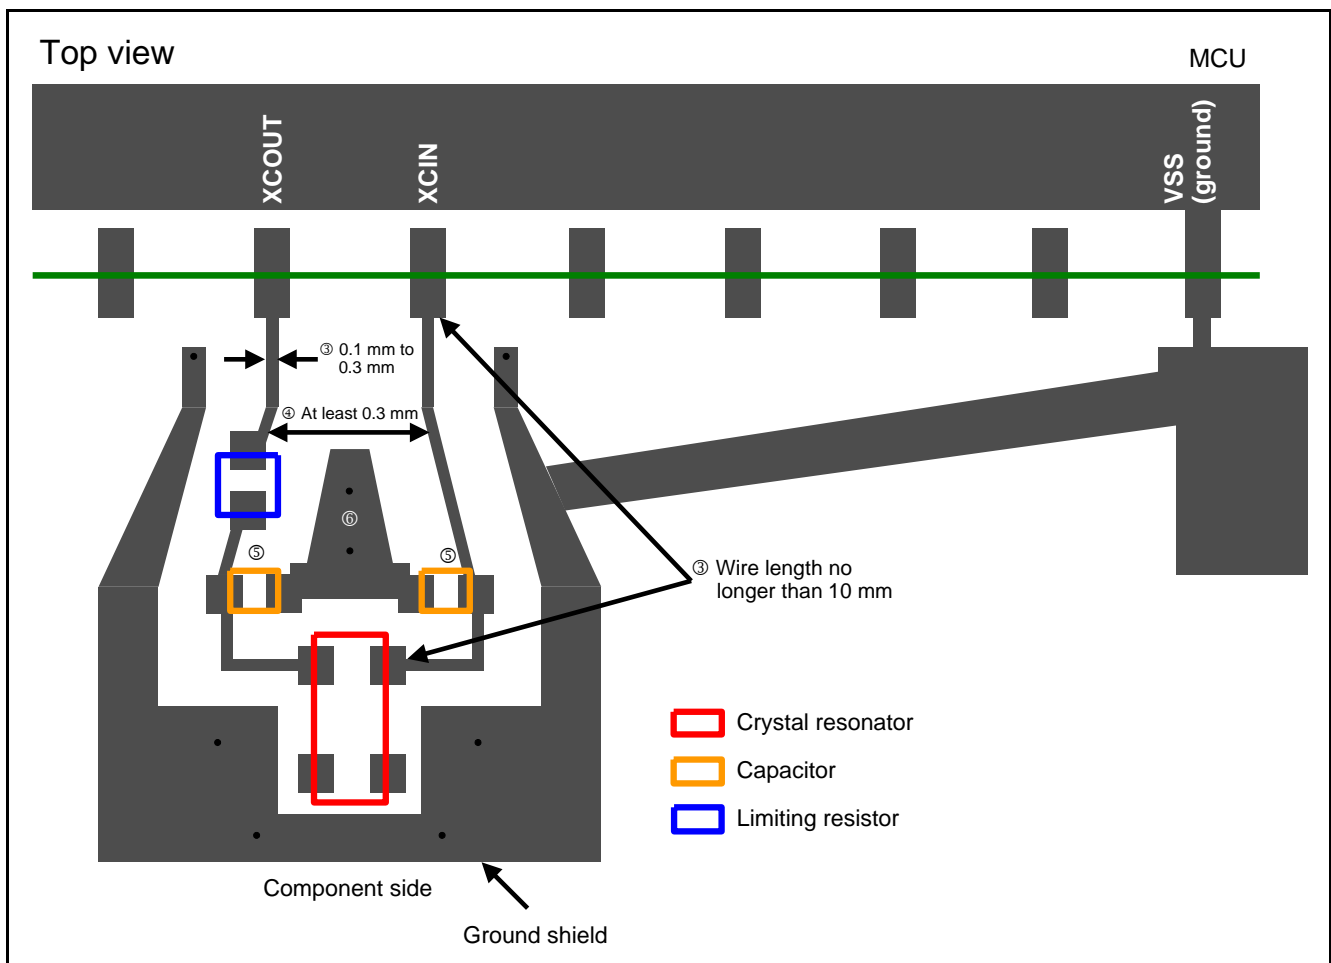
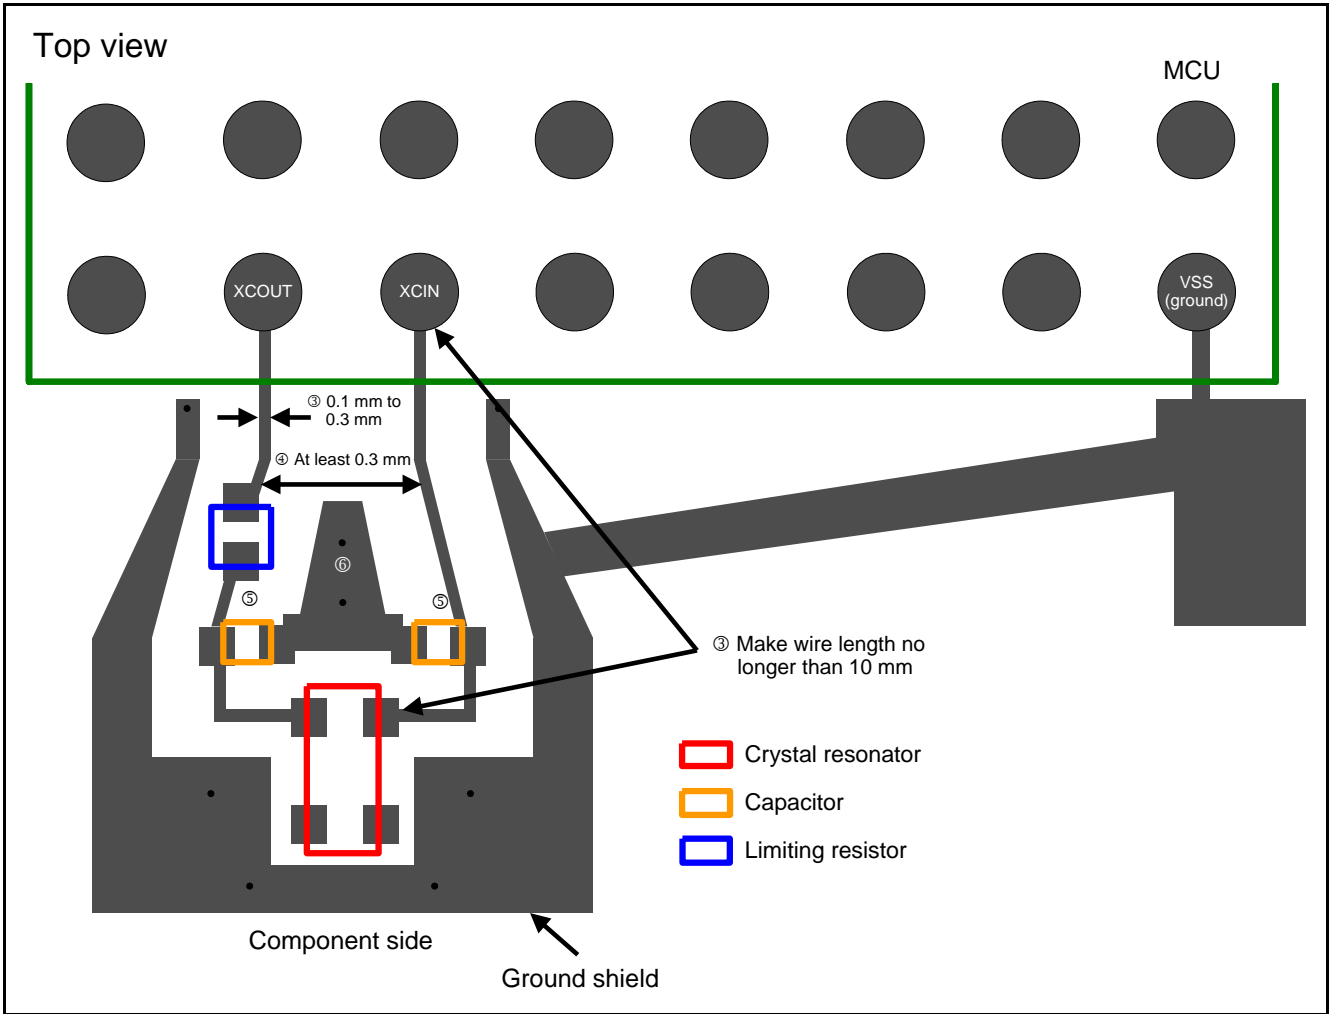
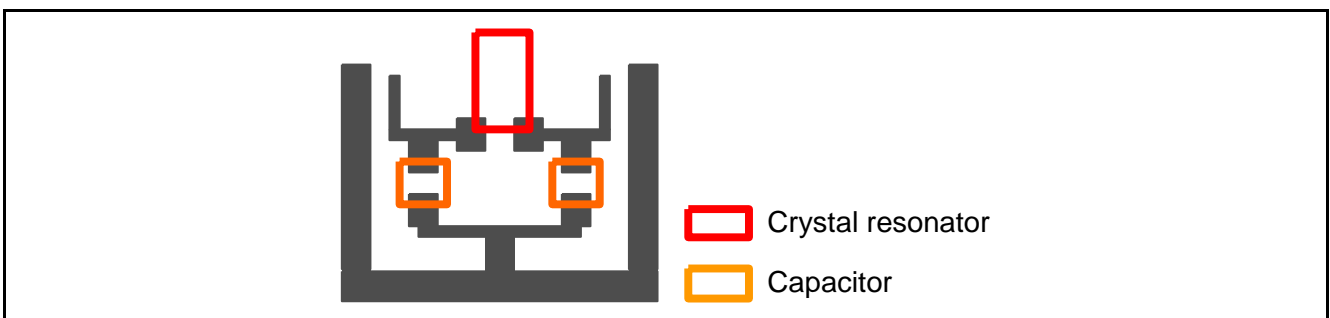

Figure 1.1 Example of Preferred Trace for XCIN and XCOUT Wiring for LQFP, LFQFP, and HWQFN Packages
Figure 1.2 Example of Preferred Trace for XCIN and XCOUT Wiring When Using the WFLGA and TFLGA Packages
Figure 1.3 Example of Alternate Trace for XCIN and XCOUT Wiring
① to ⑥ below describe points on XCIN and XCOUT wiring for a board that is at least 1.2 mm thick. Figure 1.1 shows an Example of Preferred Trace for XCIN and XCOUT Wiring for LQFP, LFQFP, and HWQFN Packages. Figure 1.2 shows an Example of Preferred Trace for XCIN and XCOUT Wiring When Using the WFLGA and TFLGA Package. Figure 1.3 shows an Example of Alternate Trace for XCIN and XCOUT Wiring
- ① Do not cross the XCIN and XCOUT wires with other signal wires.
- ② Do not add an observation pin to XCIN and XCOUT.
- ③ Make the XCIN and XCOUT wire width between 0.1 and 0.3 mm. The wire length from the MCU pins to the crystal resonator pins should be less than 10 mm, or at least as close to 10 mm if longer.
- ④ The wire connected to the XCIN pin and the wire connected to the XCOUT pin should have as much space between them (at least 0.3 mm) as possible.
- ⑤ Connect external capacitors as close together as possible. Connect the wire for the capacitors to the ground trace (hereinafter referred to as ground shield) on the component side. For details on the ground shield, refer to section 1.1.2. When the capacitors cannot be laid out as shown in Figure 1.1 and Figure 1.2, use the layout shown in Figure 1.3.
- ⑥ In order to decrease the parasitic capacitance between XCIN and XCOUT, include a ground trace between the resonator and the MCU.